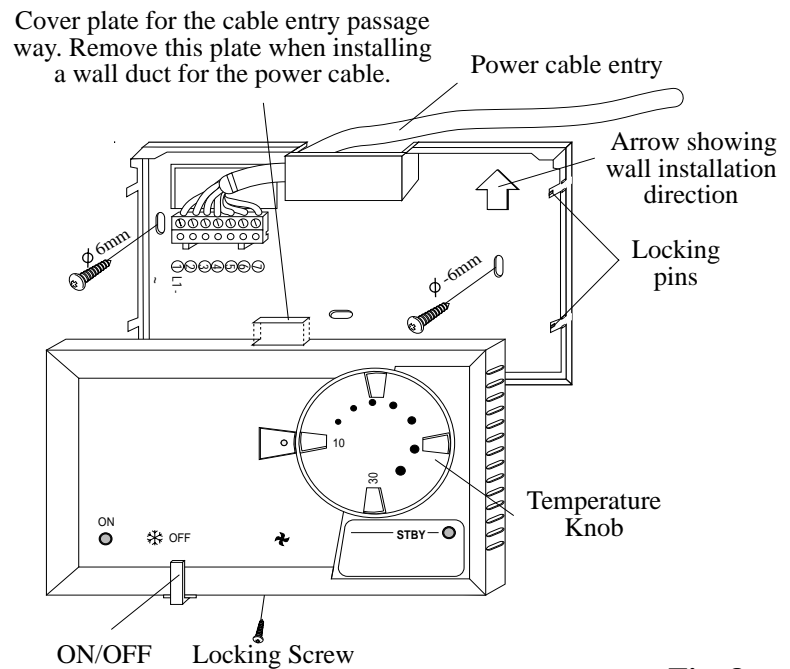

Fig. 8
- Open the screw on the bottom of the Room Thermostat Unit. (See Fig. 8).